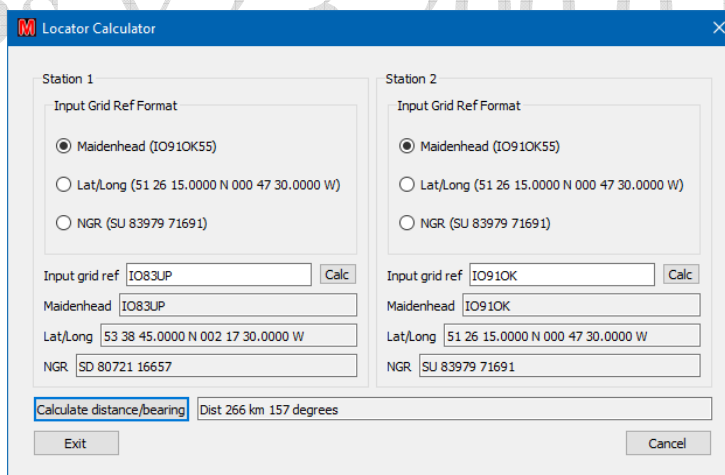

Figure 38 – Locator calculator
Depending on the option selected, you can enter a Locator, a Latitude/Longitude, or a (UK) National Grid Reference⁴³ into the “**Input grid ref**” box (see Figure 38) and convert between the various displays. Selecting “**Calc**” (or hitting “**Return**”) will then calculate and display the other two formats. If both Station details are given it also calculates the distance and bearing from Station 1 to Station 2.